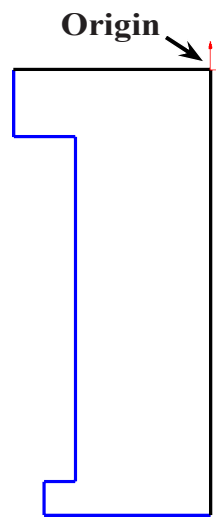

Fig. 2
Step 3. Click **Line**  (L) on the Sketch toolbar.
Step 4. Sketch lines starting at **Origin** , **Fig. 2**.